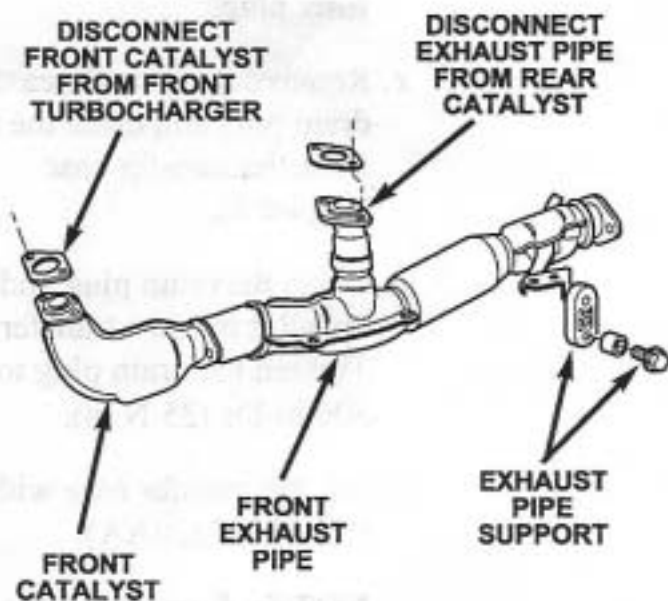

Figure 2
6. Remove the two nuts that secure the exhaust pipe to the rear turbocharger-mounted catalytic converter (Figure 2). Discard the nuts.
7. Remove the two nuts that secure the front catalytic converter to the front turbocharger outlet (Figure 2). Discard the nuts.
8. Disconnect the front exhaust pipe support (Figure 2). Disconnect the front exhaust pipe and temporarily support the front exhaust pipe with a wire or bunjee cord.